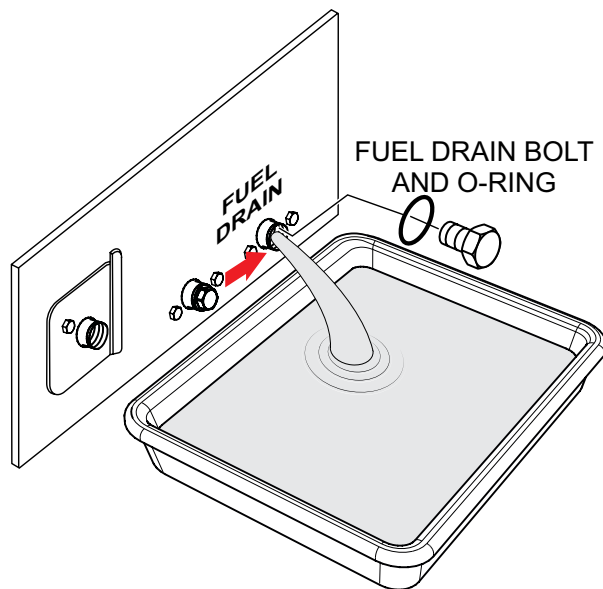

Figure 82. Draining Fuel Tank
2. If water contamination is present within the fuel tank, remove the fuel tank drain bolt and o-ring (Figure 82), then allow the fuel to drain into a suitable container.